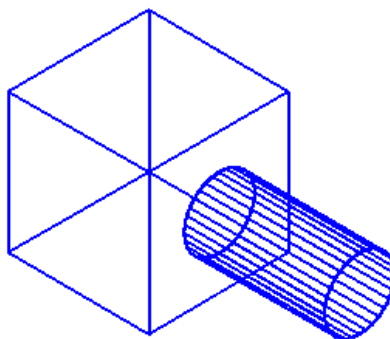

Figure Step 13
Step 13 Use the UNION command to join the two solids to one. (Figure Step 13)